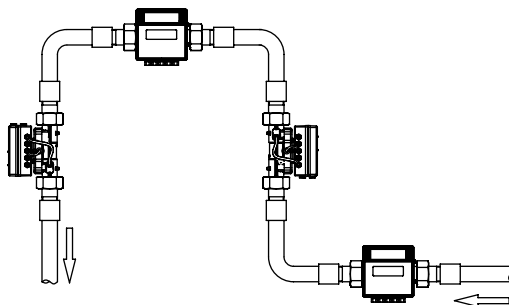

Figure 3: Installation positions
2. See the installation positions in Figure 3, in which A and B are the proper installation positions, while C and D are the improper positions.